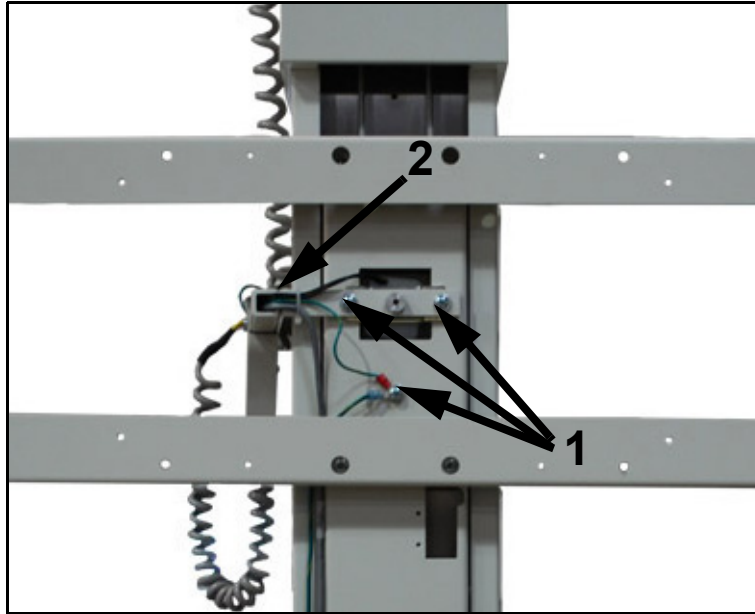

Figure 5-12. Cable Mounting Bracket
- 11 Unscrew the two bolts and grounding screw (1 in Figure 5-12) and move the cable routing bracket (2) to the right.